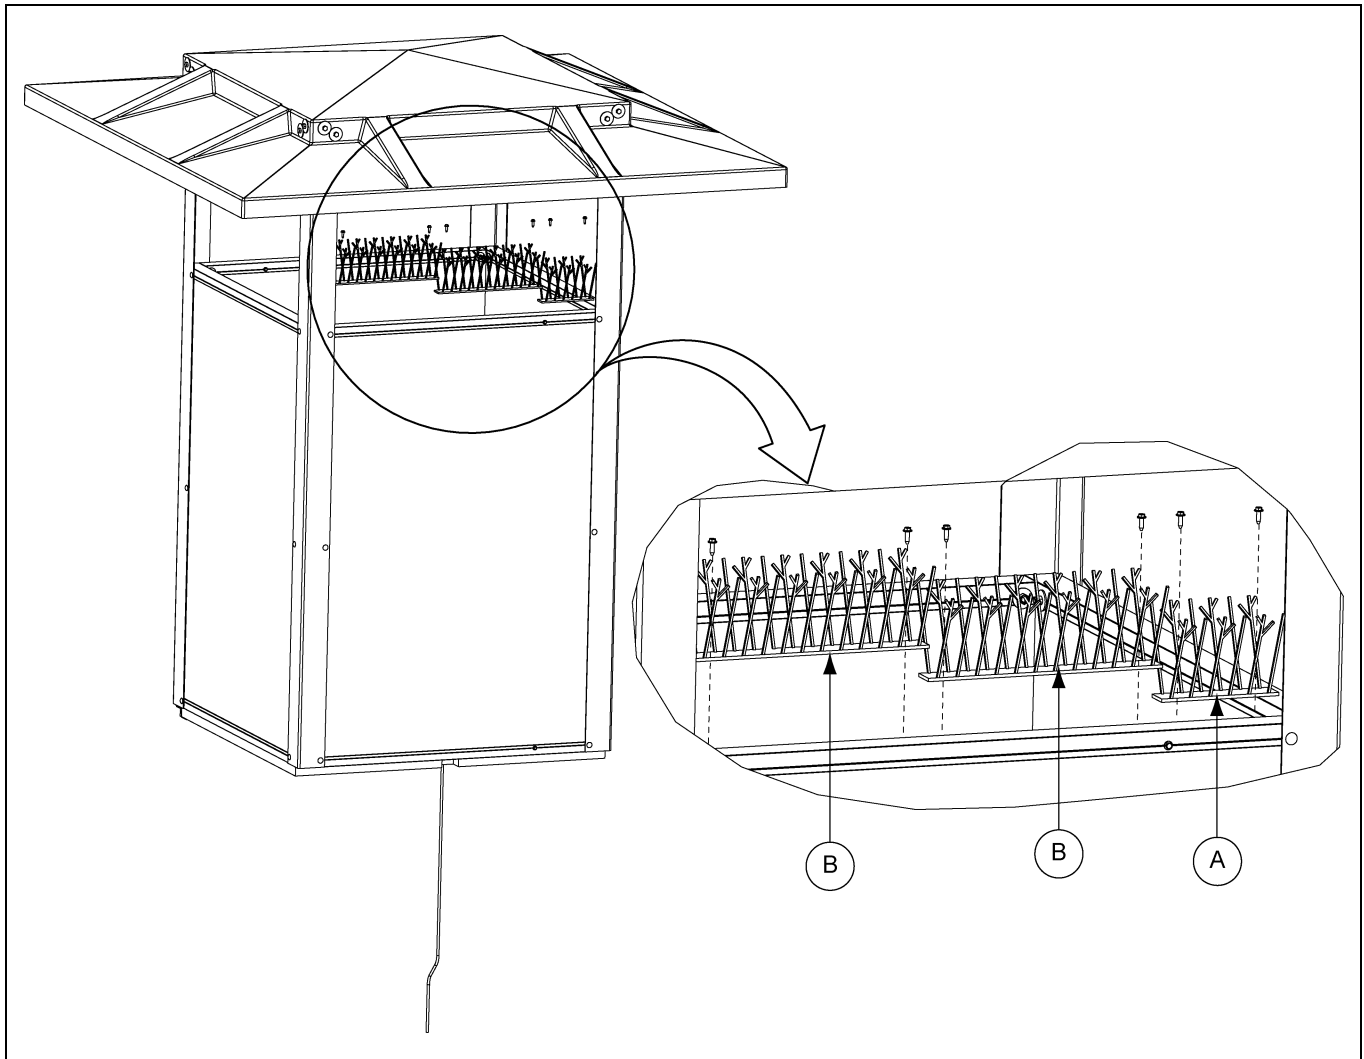
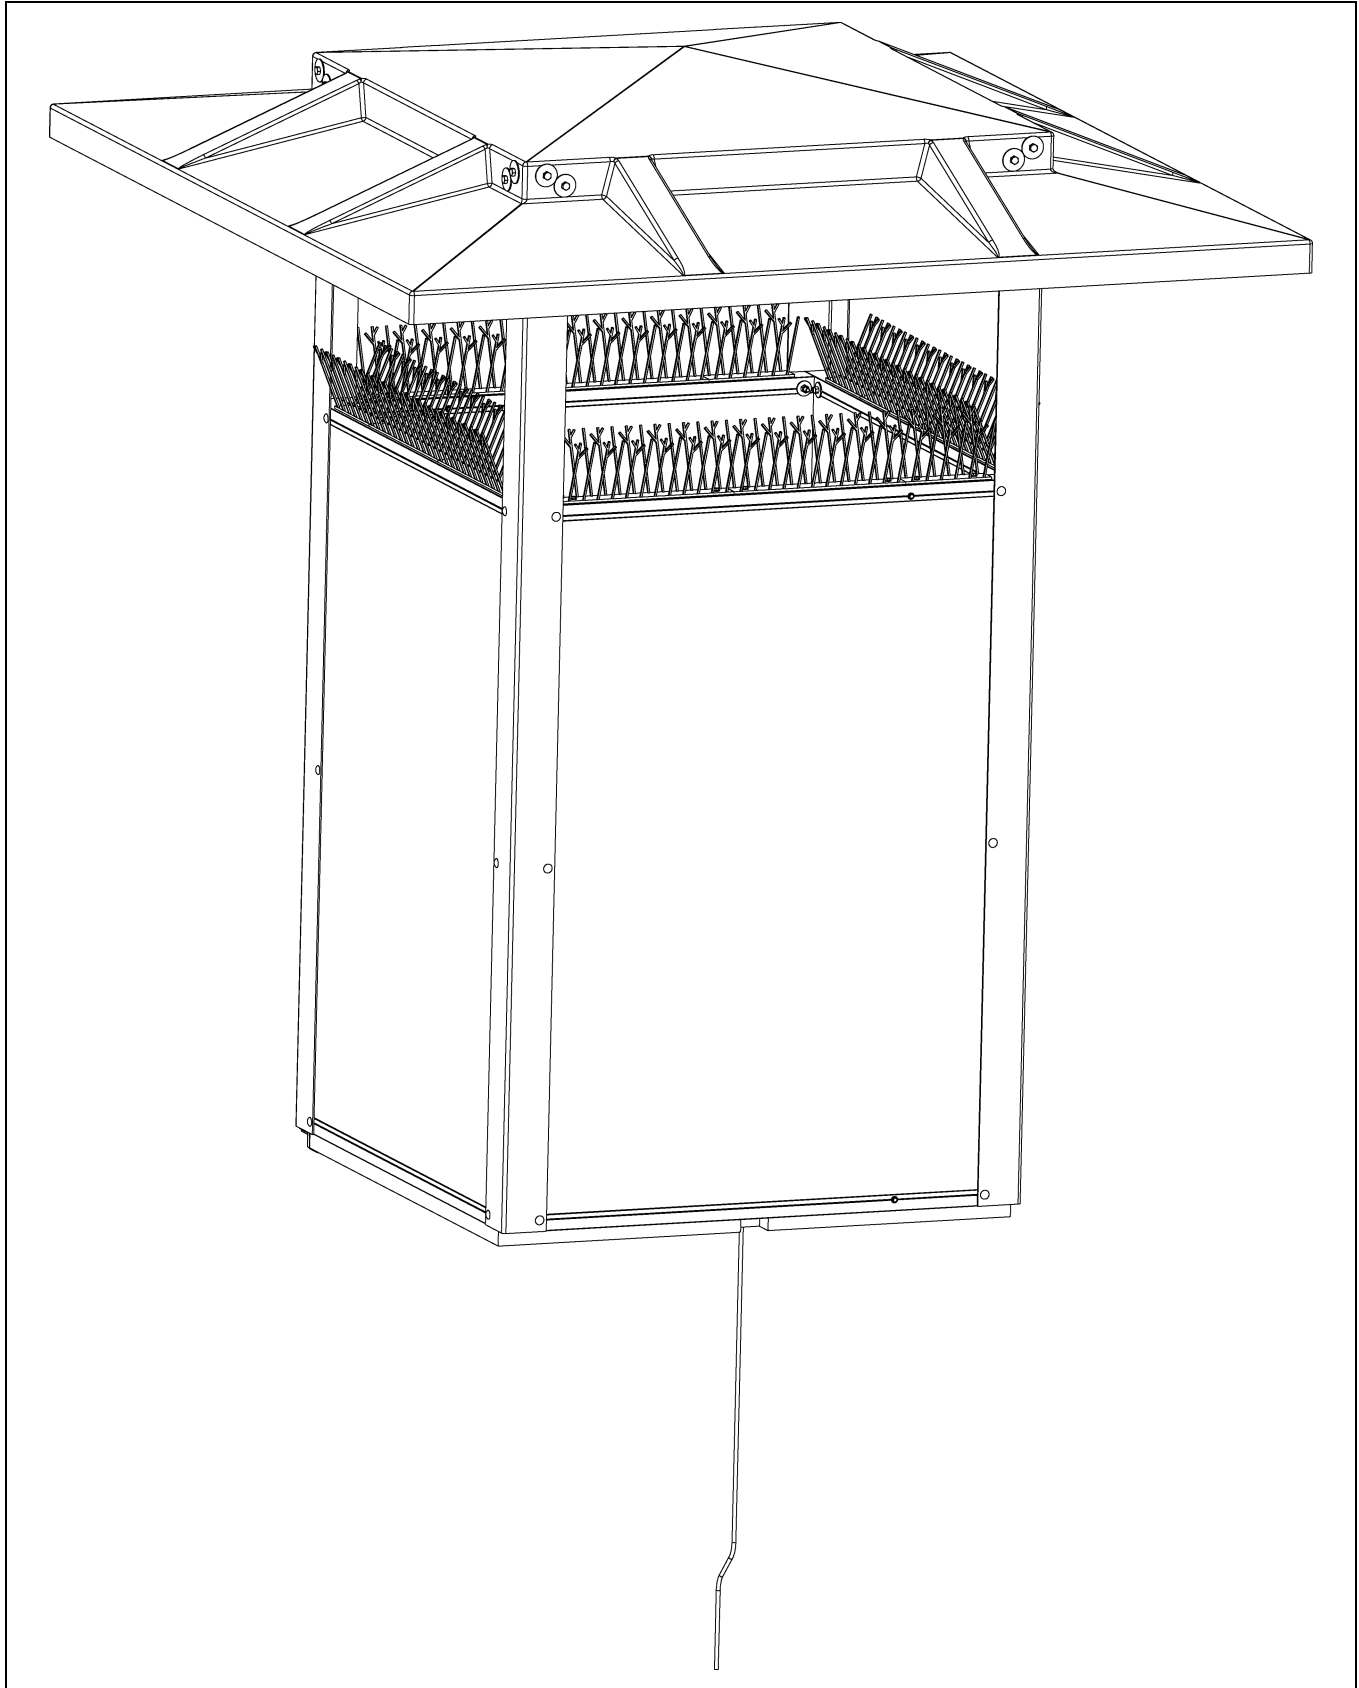

Figure 2K Bird Plastic Spikes - Detail View
Figure 2L *Bird Plastic Spikes - Assembled View*
After the two (2) sections are cut into four (4) 6" sections, begin assembling the bird spikes to the top of the side channels as shown in Figure 2K. The spikes are to be centered on each side channel and attached using the self-drilling screws included. Repeat for all four (4) sides. The finished product should look like Figure 2L on Page 16.